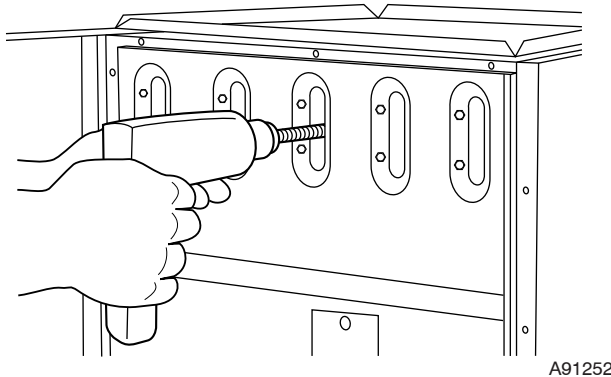

Fig. 50—Cleaning Heat Exchanger Cell
- (2.) Insert brush end of cable into the outlet opening of cell and slowly rotate with drill. **DO NOT** force cable. Gradually insert cable into upper pass of cell. (See Fig. 50.)